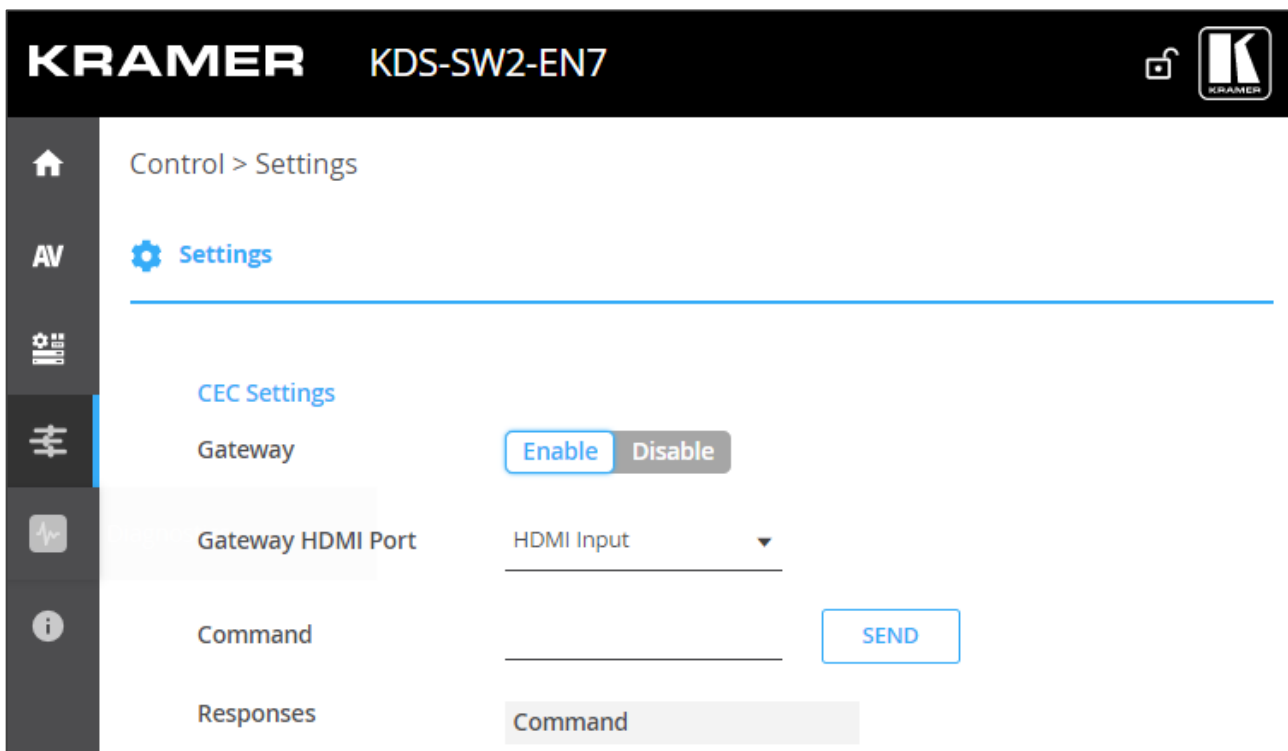

Figure 30: Control > Settings Page – CEC Settings
1. In the Navigation pane, click **Control**. The Control>Settings page appears (see Figure 30).